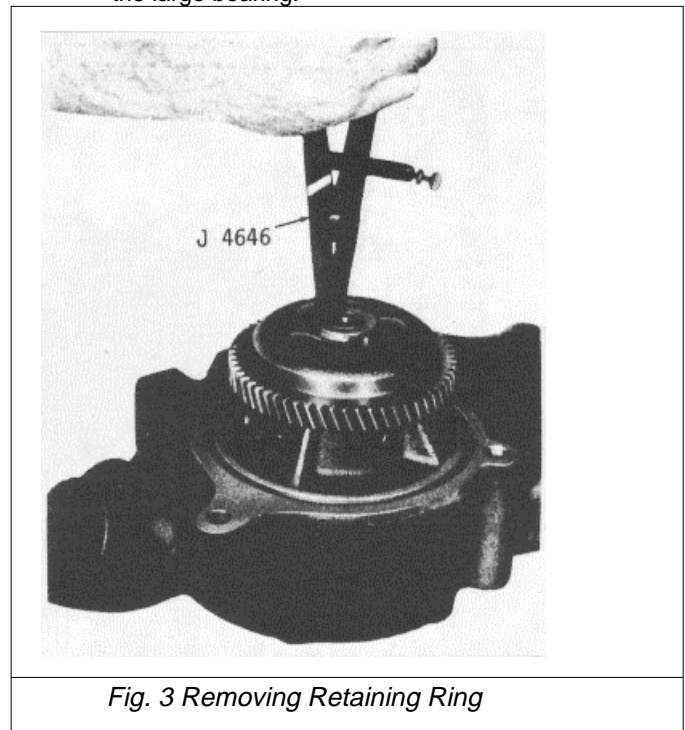

Fig. 3 Removing Retaining Ring
- (1) Turn the pump gear so the slot is over the ends of the bearing retaining ring, insert pliers J 4646 into the slot and, with the aid of a small screwdriver, remove the ring from the groove (Fig. 3).
- (2) Remove the attaching bolts and remove the pump cover and gasket.
- (3) Hold the gear securely and remove the impeller locknut and washer.